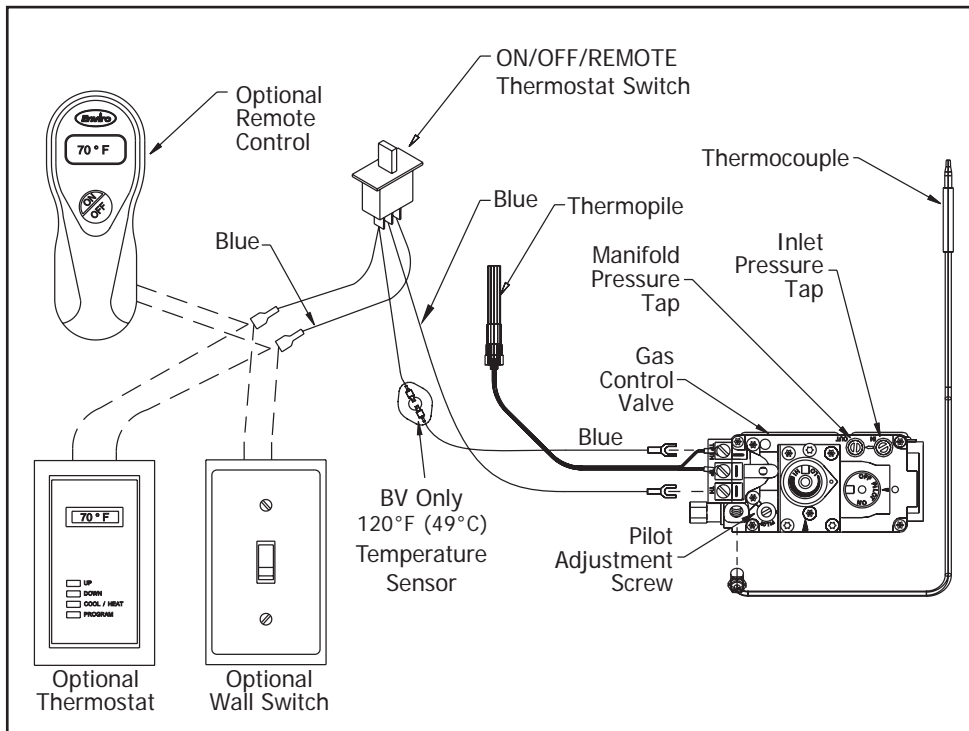

Figure 31: Accessory Wiring
The Q2G comes from the manufacture with an on/off switch mounted to the control panel. If you would like to install a wall mounted switch or thermostat then use the diagram to assist you in wiring the accessory into the unit. Disconnect the connection behind the switch in the control panel as tap into the (2) terminals as shown in Figure 31